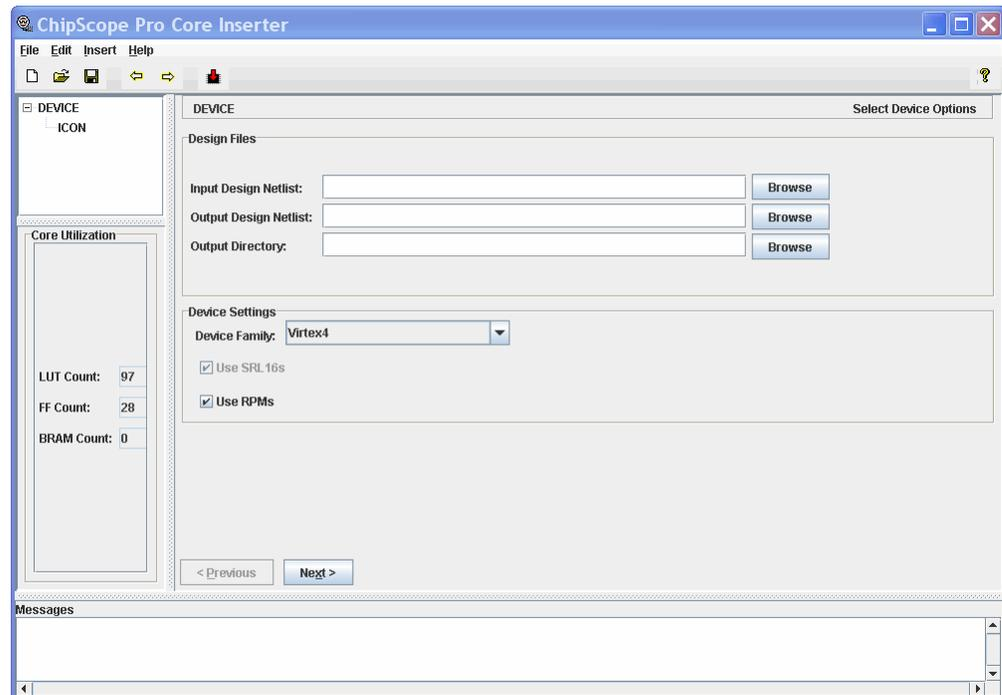

Figure 3-7: Blank Core Inserter Project
When the ChipScope Core Inserter is first opened, all the relevant fields are completely blank. Using the command **File** → **New** also results in this condition (Figure 3-7).
1. Specify the Input Design Netlist (Figure 3-7, page 75).